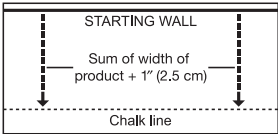

Figure 8
- In at least two places at least 18" (46 cm) from the corner, measure out equal distance from the starting wall (Figure 8) the face width of the starter board plus 1" (2.5 cm) (do not include the width of the tongue in this measurement). Mark these points and snap a chalk line through them. This measurement allows for the required 3/4" (19 mm) expansion and the width of the tongue.